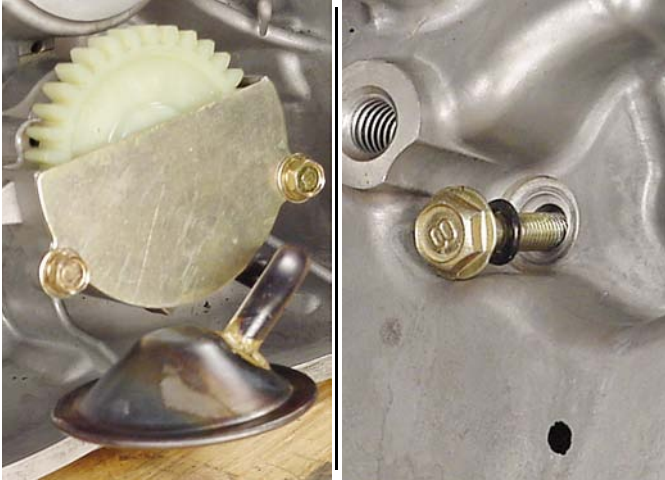

Fig. 95
2. Install oil pump gear baffle, Fig. 95.
3. Assemble oil pump to crankcase cover with new O-rings, Fig. 95.